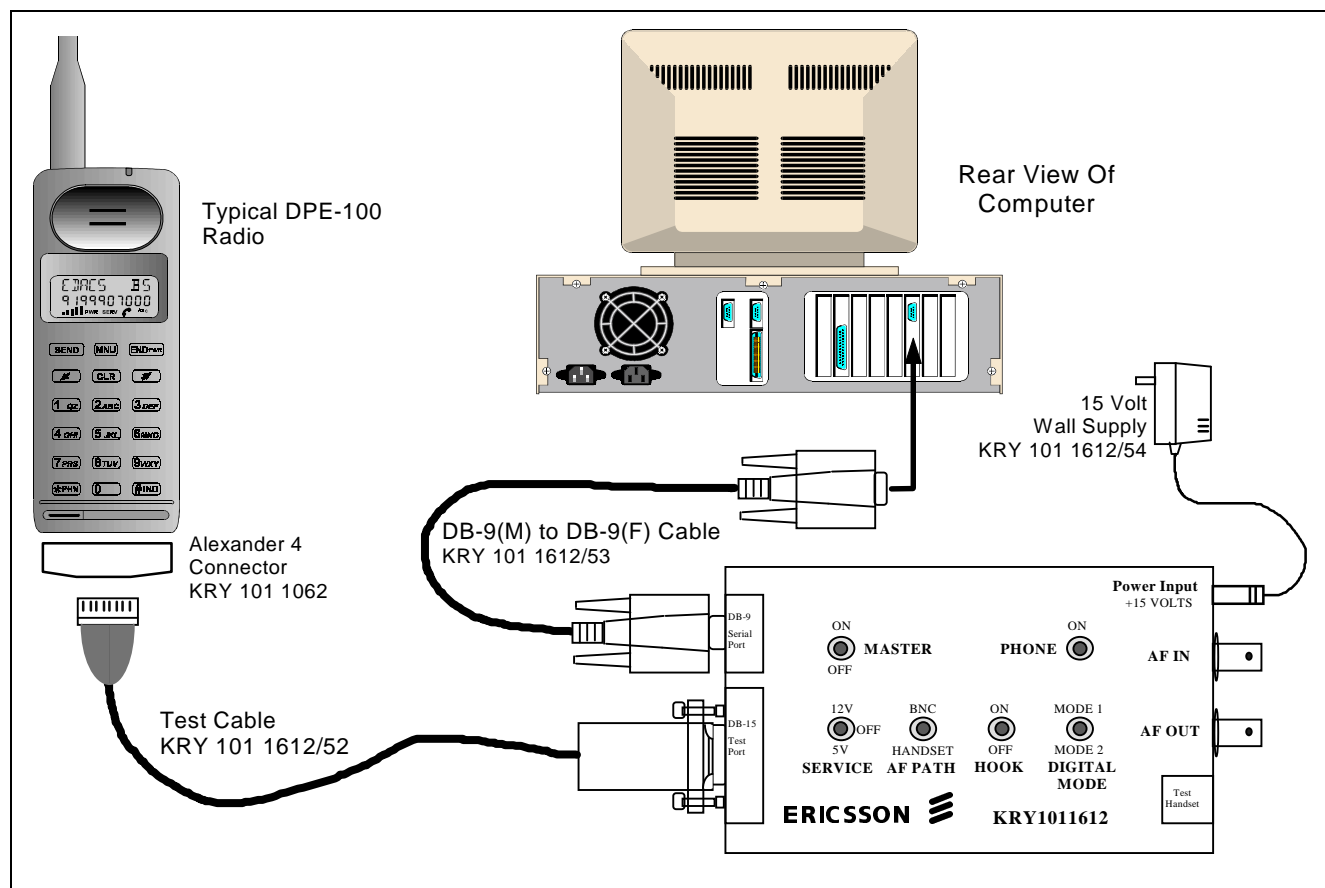

Figure 10 - Personality Programming Equipment Setup
The EDACS-2 PC Programming software communicates with the radio through the Troubleshoot Box (item 1 in the equipment list). Figure 10 provides a diagram of the Equipment Setup required to PC Program the radio. Refer to the PC Programming manual (TQ-3373) for detailed software operating instruction.